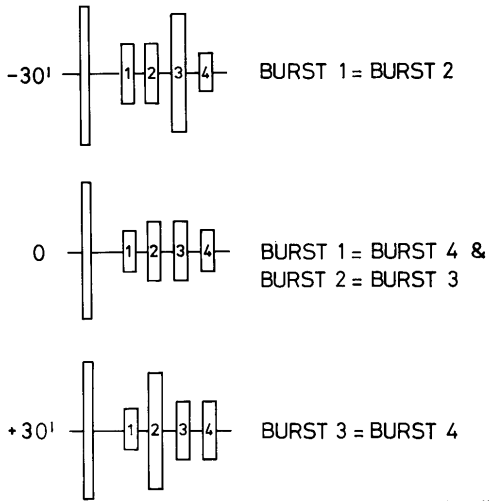

Fig. 5
- Check the azimuth burst wave pattern (see figure 5).